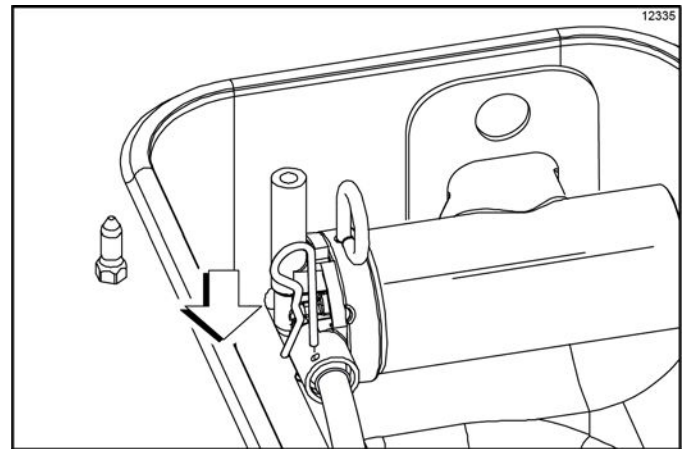

Figure 6-58
2. When the mix stops bubbling down into the freezing cylinder, remove the cotter pin from the outlet fitting of the mix pump. Insert the outlet end of the mix feed tube into the mix inlet hole in the mix hopper. Place the inlet end of the mix feed tube into the outlet fitting of the mix pump. Secure with the cotter pin. (See Figure 6-58.)